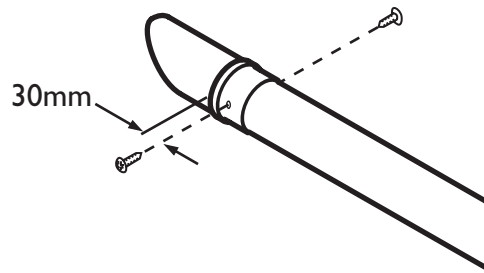

Fig. 27
19. Mark the female end of the extension at 30mm as shown in two positions, directly opposite each other (Fig. 27).